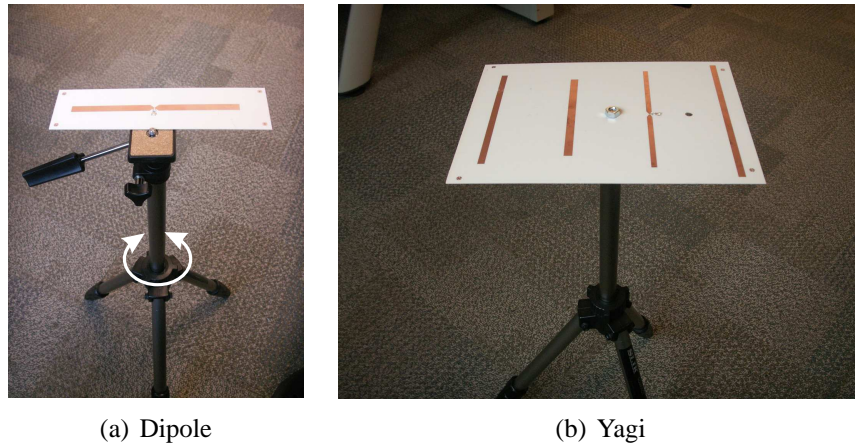

Figure 1: E-Plane measurement setup
3. Attach the dipole on the tripod horizontally as shown in Figure 1(a).
4. Attach the Yagi antenna to the other tripod as shown in Fig 1(b). Notice that the Yagi, which is composed of dipole-like elements, is *co-polarized* with the dipole so that it can properly receive transmissions from the dipole antenna. By rotating the dipole tripod head you can change the angle between the dipole axis and the imaginary axis between the transmitter and the receiver. Hence, you are effectively changing the angle θ by rotating the tripod head.
5. Align the dipole such that the arms are in parallel with the arms of the Yagi when the tripod pedestal is at 0° . Refer to Figure 1.